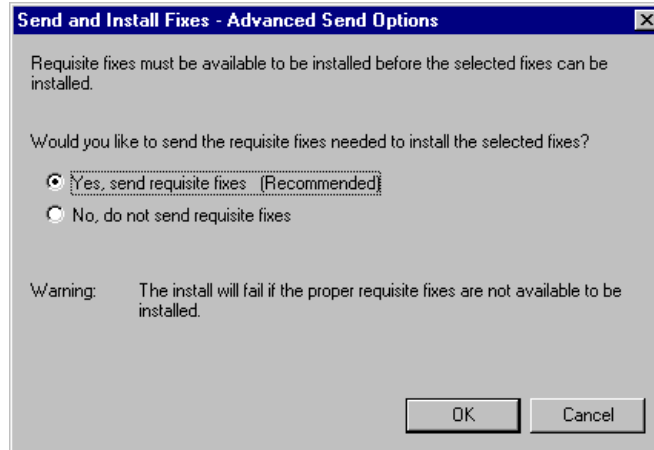

Figure 88. Send and Install Fixes: Advanced Send Options window
5. Click on **Advanced Send Options**. The Send and Install Fixes – Advanced Send Options window is shown in Figure 88 on page 111.